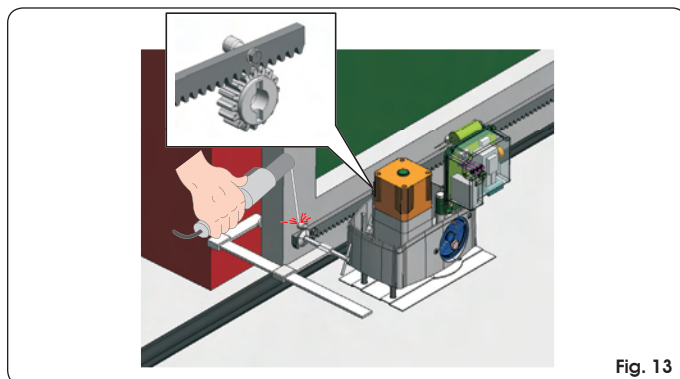
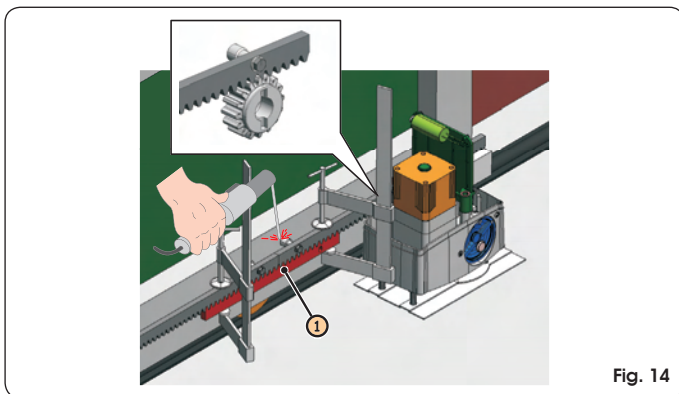

Fig. 13
Fig. 14
- ① Fit the three threaded pawls on the rack element, positioning them on the upper part of the slot. In this way the clearance on the slot will enable any adjustments long-term.
- ② Manually move the leaf to its opening position.
- ③ Lay the first piece of rack level on the pinion and weld the threaded pawl on the gate as shown in Fig. 13.
- ④ Manually move the gate, checking if the rack is resting on the pinion and weld the second and third pawls.
- ⑤ Fit another rack element next to the previous one, using a piece of rack, as shown in Fig. 14 ref. ①, to synchronise the teeth of the two elements.
- ⑥ Move the gate manually and weld the three threaded pawls. Carry on like this until you have fully covered the gate.
- ① Manually move the leaf to its opening position.
- ② Rest the first section of rack on the pinion, positioning the spacer between the rack and the edge of the gate. Using a spirit level, check if the rack is horizontal and mark the perforation point with a felt-tipped pen.
- ③ Drill with a 6.5 mm diameter bit, and thread with an M8 male element. Screw the bolt.
- ④ Manually move the gate, checking if the rack is resting on the pinion and repeat the operations in point ③.
- ⑥ Move the gate by hand and perform the securing operations as for the first element, carrying on like this until you have covered the gate completely.